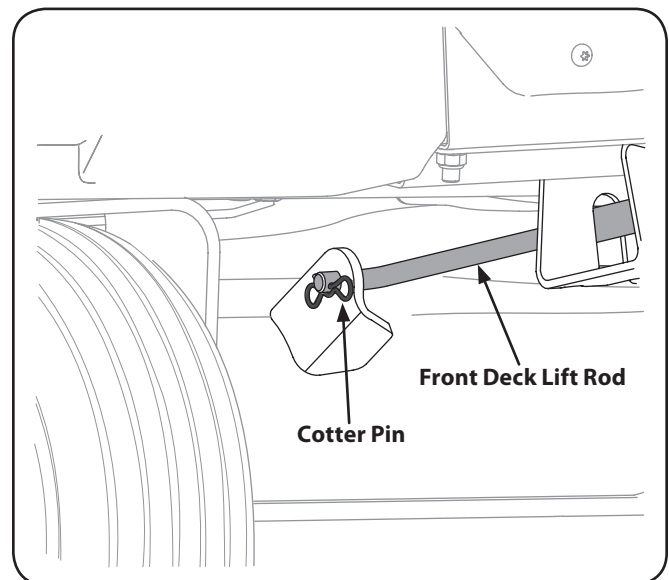

Figure 7-5
7. Pull the cotter pin out of the front deck lift rod securing it to the deck. See Figure 7-5. Slide the deck lift rod out of the front hanger bracket.
- Reinstall the front deck lift rod and secure in place with the cotter pin. Refer to Figure 7-5.